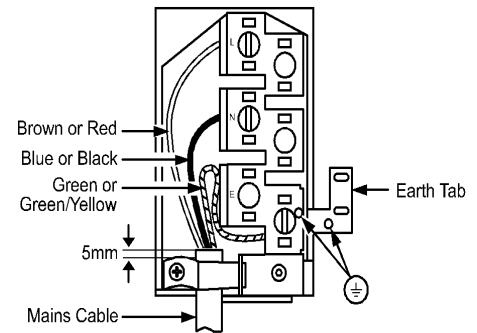

Fig.11
- Make connection as shown in Fig.11 by proceeding as follows:-
- Clamp the mains cable securely ensuring 5mm of the outer insulation is inside the terminal block and that the wires are not taught but not so slack as to cause any fouling. See Fig. 11.